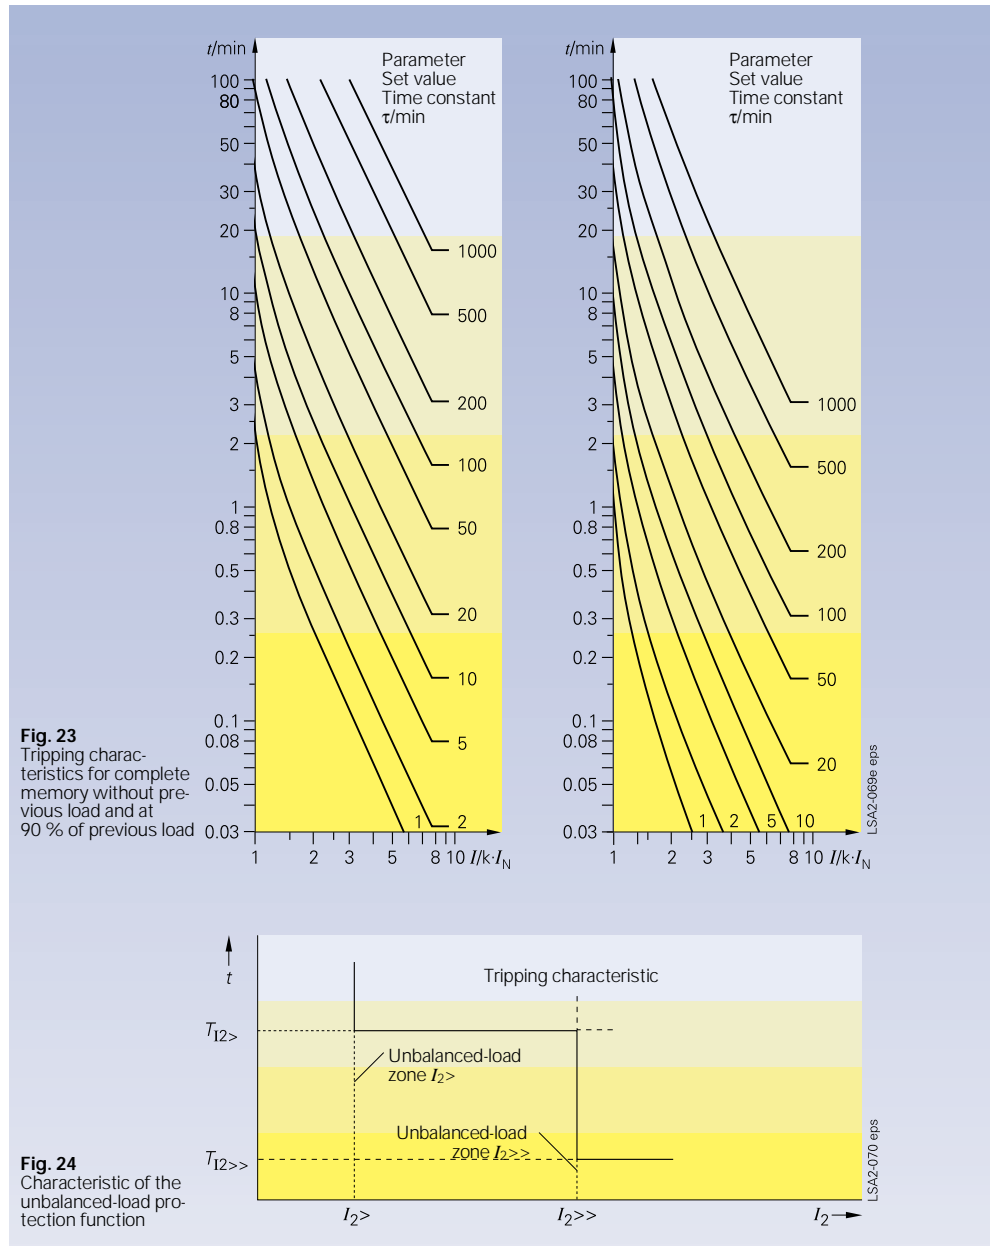

Fig. 23
- \ln = natural logarithm (see Fig. 23)